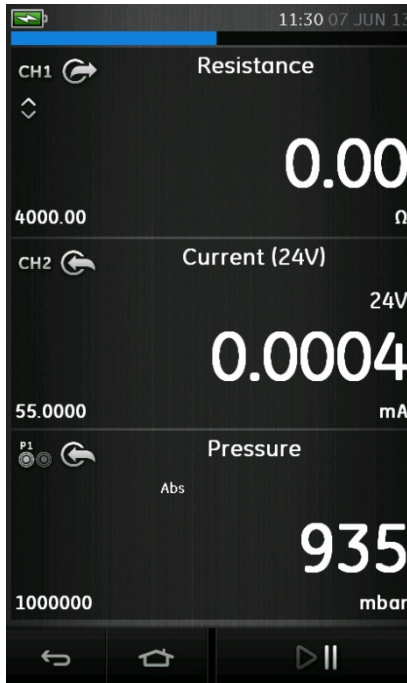

Figure 2-11 Calibrator Window – Reduced View
- Figure 2-11 displays a reduced view of all the selected channels.